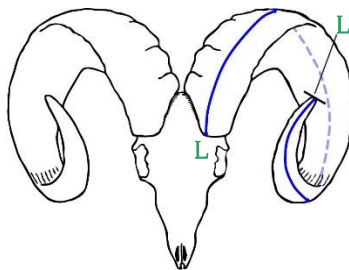
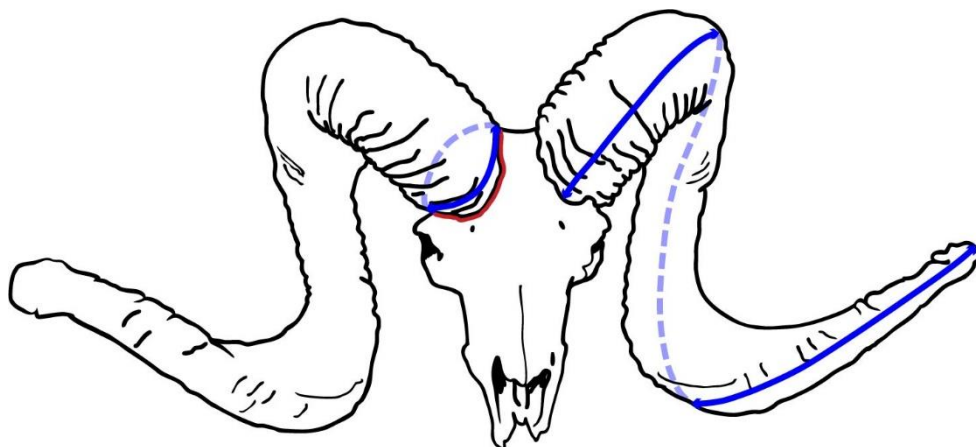
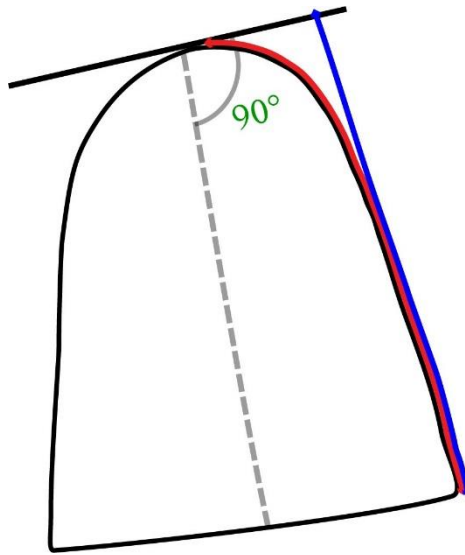

Figure 1
Figure 2
Figure 3
1. Length. Measure the length of each horn from the base to the tip (Figure 1, L–L and Figure 2). Many sheep have horns that have a flat frontal surface that extends from the base all the way to the tip. Place the 90-degree hook (found on the end of the steel tape) around the lowest point at the base and then follow the center of the ridge throughout the curve of the horn to the tip. End the measurement to a point that is in line with the end of the tip but do not curve the tape to get to the center of the tip. Card the horn off and measure up to the farthest protruding point of the horn in a straight line. (Figure 3)